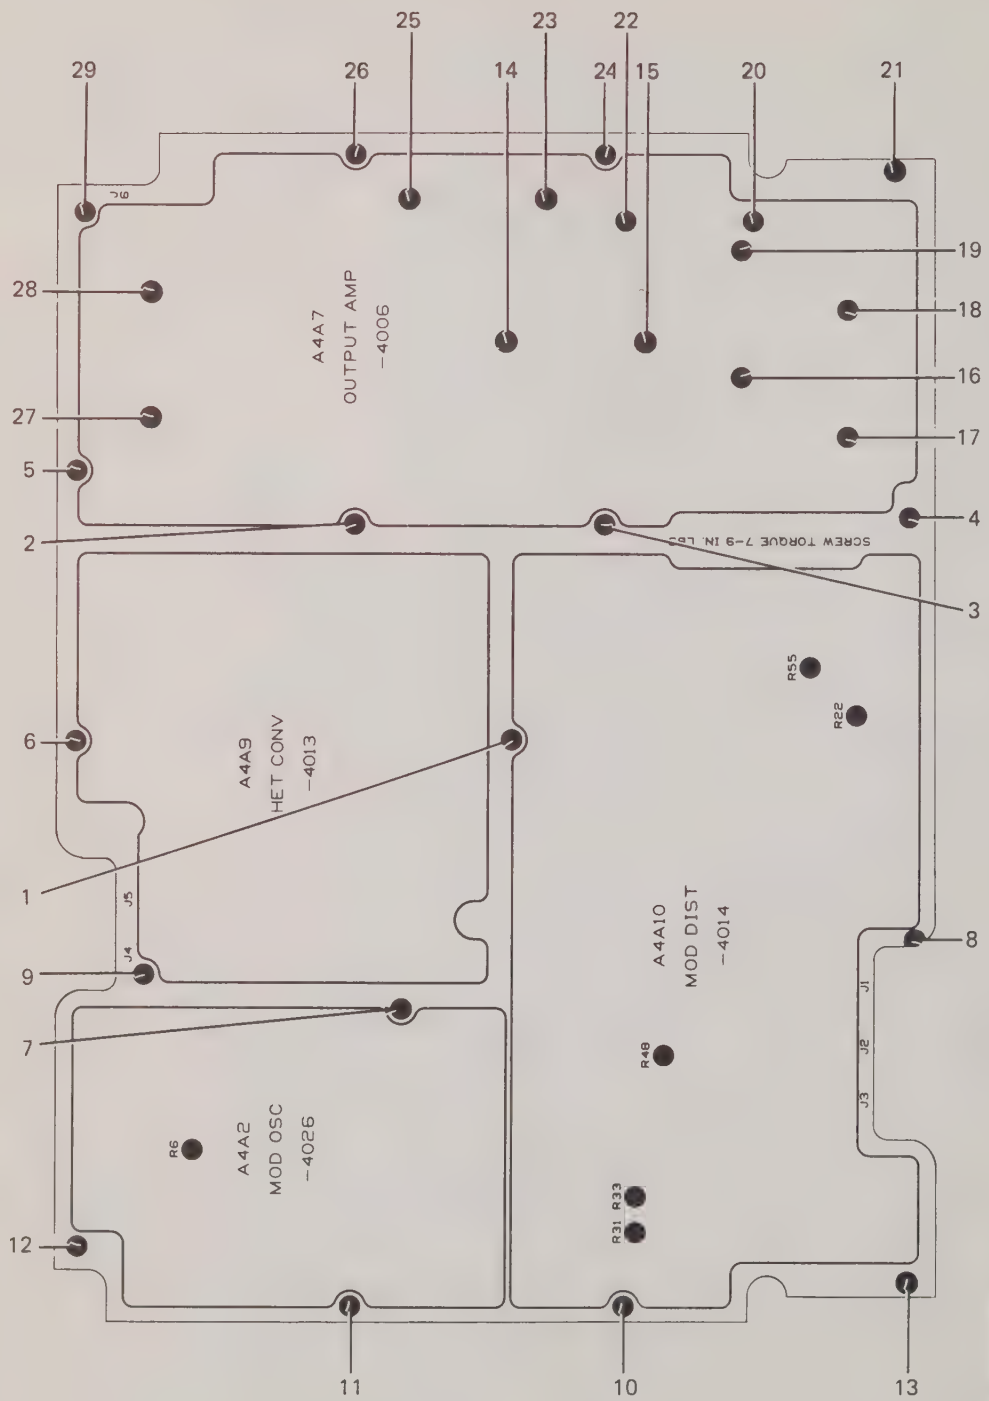

Figure 3-12. Torque Sequence, Output Module, Bottom Cover
3. Remove the screws and washers that hold that bottom cover of the output module in place (Figure 3-12).
- a. Torque all screws to 3 inch-pounds in the numerical sequence shown in Figure 3-12.
- b. Torque all screws to 7 to 9 inch-pounds in the numerical sequence shown in Figure 3-12. The torque value should be the same for all screws.